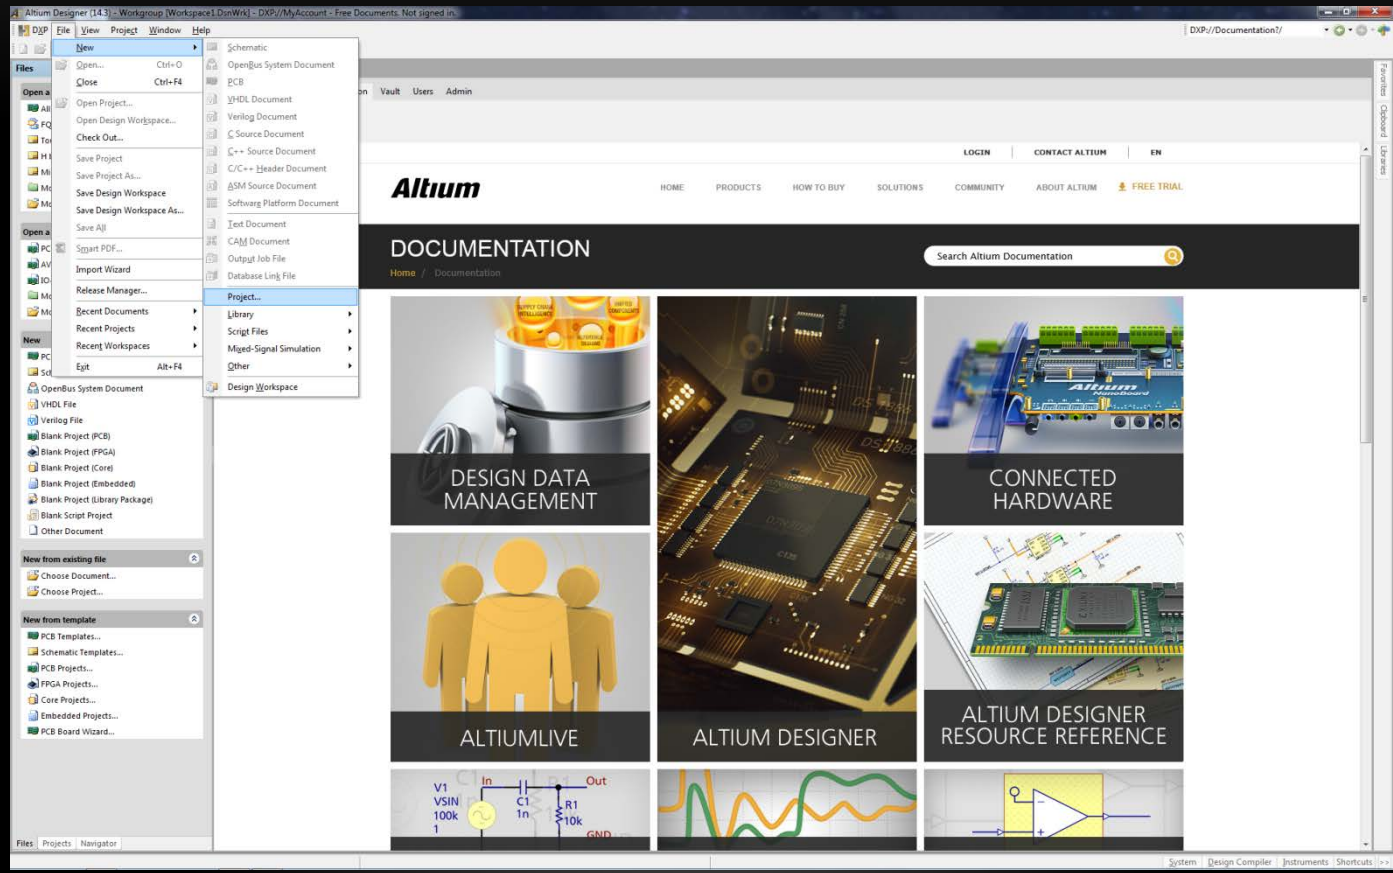

Figure 3
- Create a new PCB Project. File > New > Project > PCB Project – or – You may click on the 'Files' tab and then under the 'New' heading you can click 'Blank Project' (Figure 3)